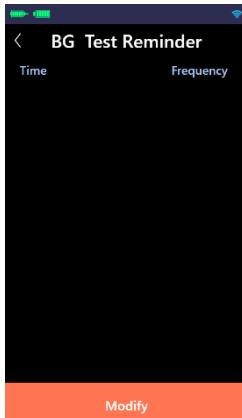

Figure 13.1
**(1)** Click "BG Test Reminder" to open the test reminder interface, and then click "Modify" (as shown in Figure 13.1).